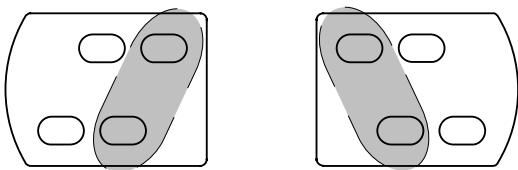

FIG. 4 UTILIZE HOLES IN SHADED AREA WHEN ATTACHING ARMS TO HI-BACK CHAIR
2. Refer to illustrations for position of bracket and correct hole use location for various arm and chair combinations (Figs. 4, 5, 6, 7).